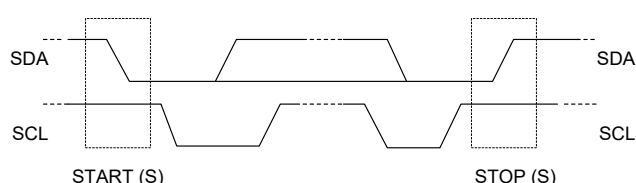

Figure 13. Placing the Start and Stop Conditions in the I²C Bus
When the bus is free (idle), both SDA and SCL remain high. A START (S) condition is sent by master at the beginning of a transaction with a high-to-low transition on the SDA line while the SCL is high and all slaves will detect that. Similarly, one (or more) STOP (P) condition is sent by master with a low-to-high transition of the SDA line while the SCL is high to terminate the transaction and release the bus (See Figure 13). It is recommended to initiate the bus by sending a STOP condition after power-up. The master may not release the bus after a complete transaction with the slave and send a repeated START (Sr) to initiate a new data exchange with the slave.